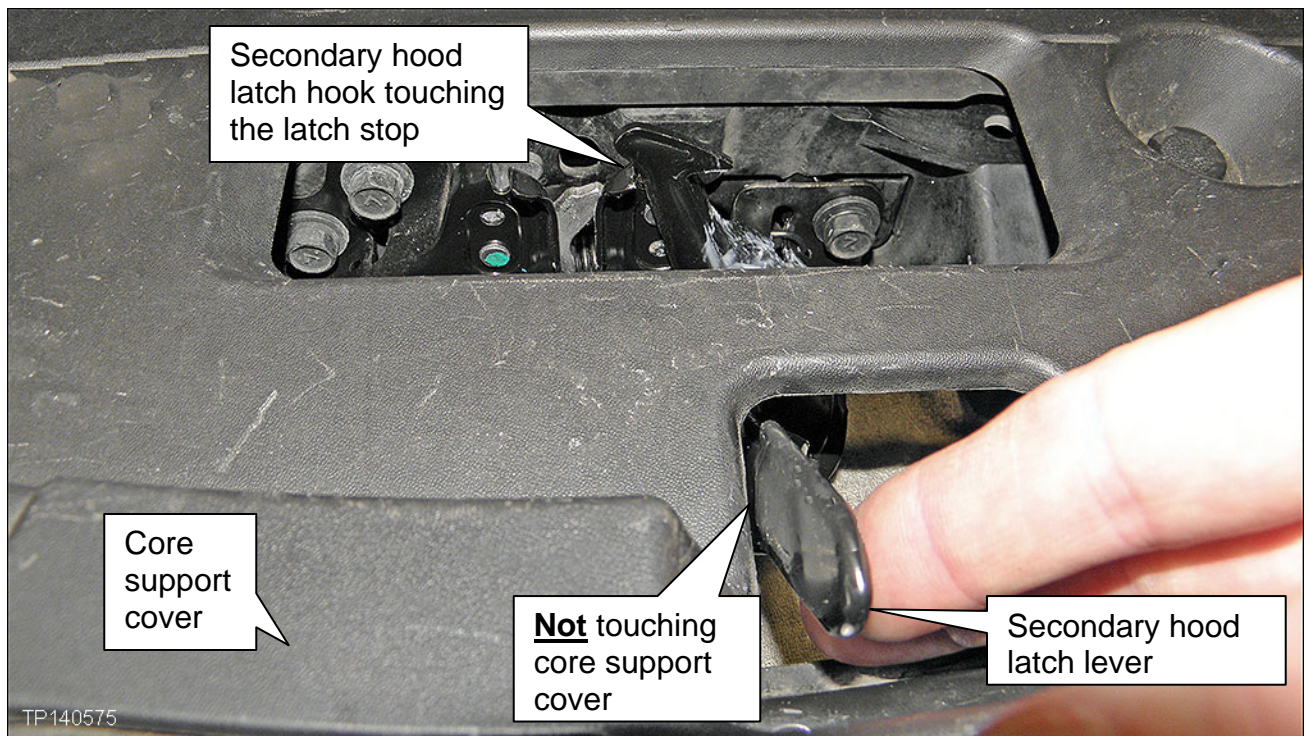

Figure 14
- Move the secondary hood latch lever all the way toward the passenger side (complete unlatched position) and hold it there (see Figure 14).